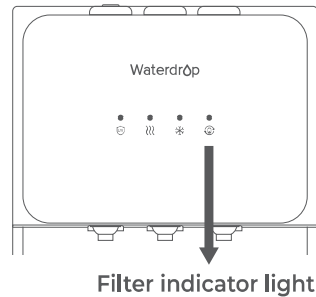

Figure.8
1. Twist the expired filter to remove them.(Figure.8)